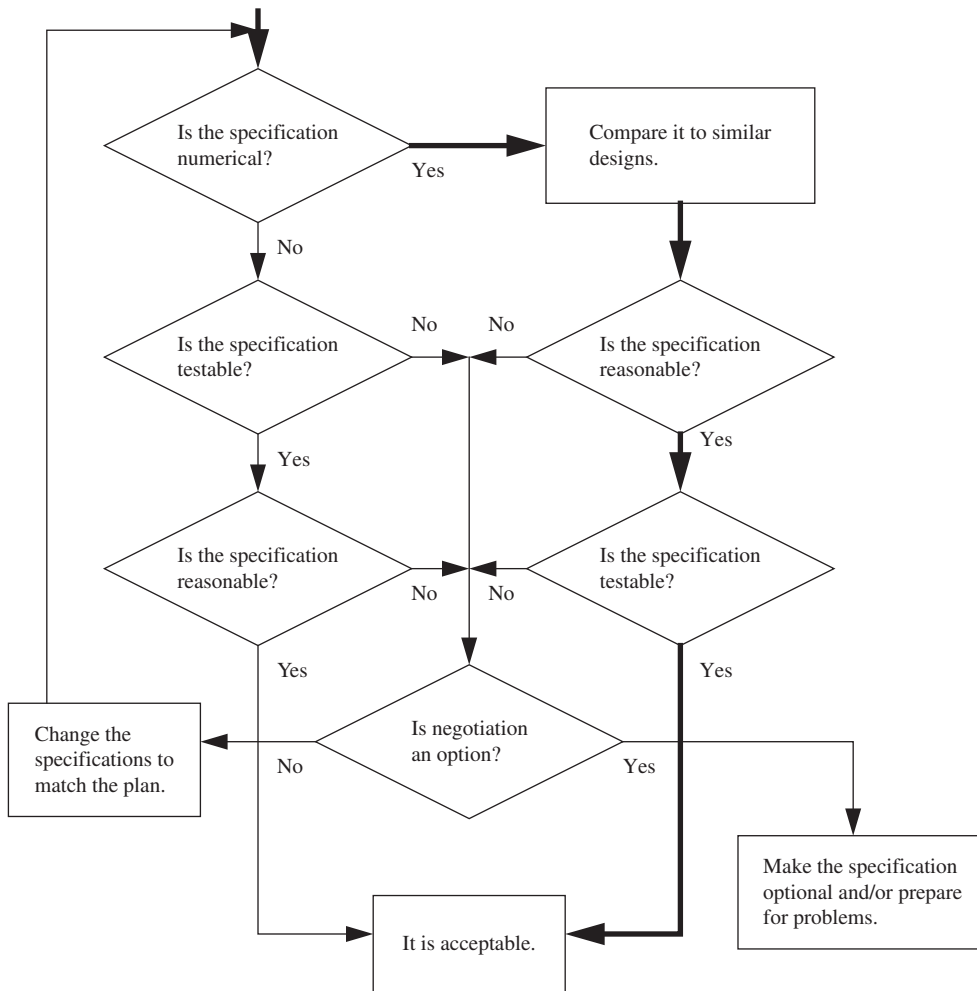

FIGURE 2.17
A reasonable process for developing specifications is shown in Figure 2.17. The process is to (1) approve reasonable and testable specifications, (2) continue looking at untestable or unreasonable specifications, and (3) be prepared to reject specifications. Select specification values so that the process results in a win-win outcome for supplier and customer. Strategically, the supplier wants to have a set of specifications so simple that it could deliver an empty box. Likewise, the customer wants to include as much as possible in the specifications to maximize the benefits. In addition, some project sponsors will push for *open items* or “loose ends” in projects because they want to see what else is possible, hoping to get extra value. However, these strategic extremes result in a poorer product at the end of the design project.